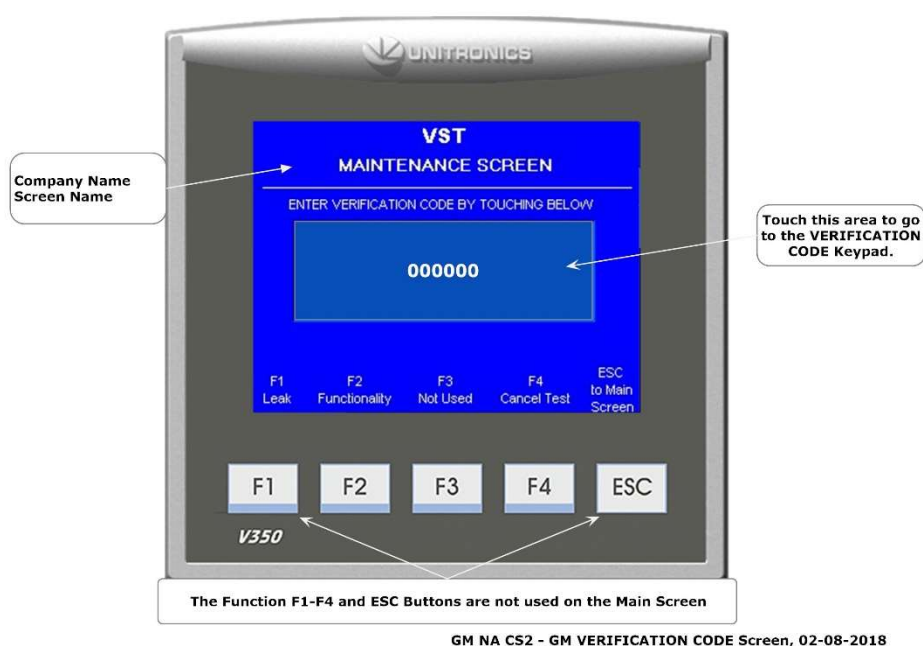

Figure 6-14: VERIFICATION CODE screen
7. Push the large button with 000000 showing. **See Figure 6-14.**